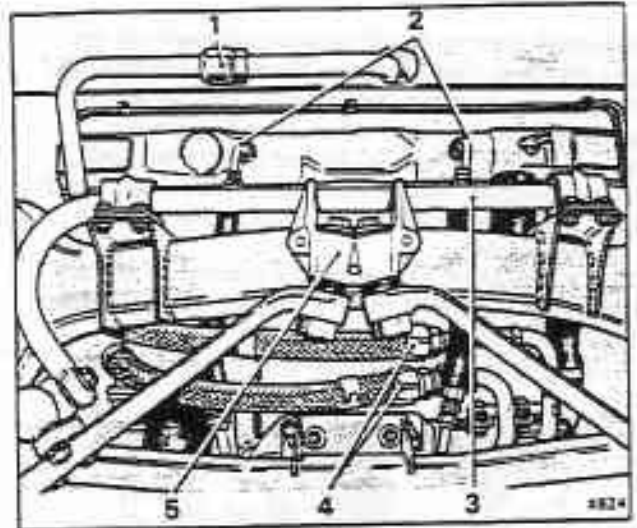

Fig. H2-7 Engine and transmission cooler pipes (Mulsanne Turbo cars)
30. Disconnect the two transmission to oil cooler flexible pipes situated on either the right-hand side of the transmission unit or above the steering rack (see fig. H2-7). Allow the oil to drain into a container.
31. On Mulsanne Turbo cars, disconnect the two engine to oil cooler flexible pipes situated adjacent to the steering rack (see fig. H2-7). Allow the oil to drain into a container.